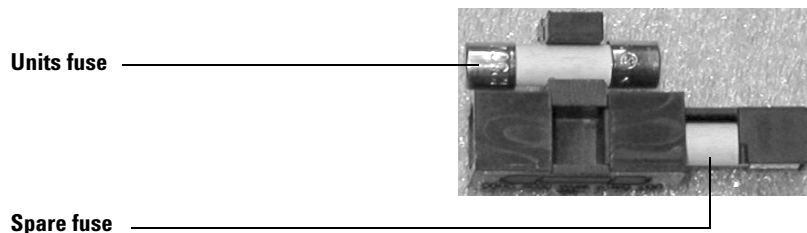

Figure 9 Inline fuse and spare
- 4 Inspect the fuse in service. See Figure 9. Replace if blown with a 6.3 A, 250 V type T fuse.